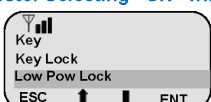

Figure 14
14. Highlight "Low Pow Lock" and press "ENT", highlight "OFF" and press "ENT". (See Figure 14)